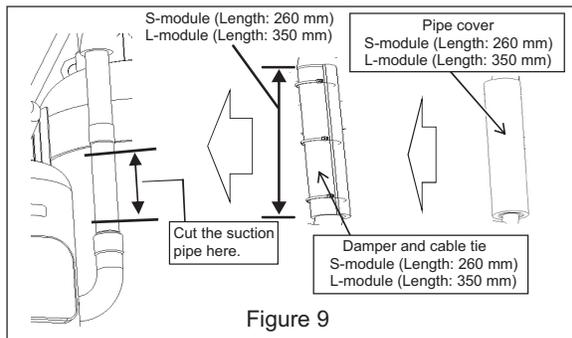

Figure 9
(9) Remove the pipe cover and the damper, and cut the suction pipe where indicated in Figure 9.